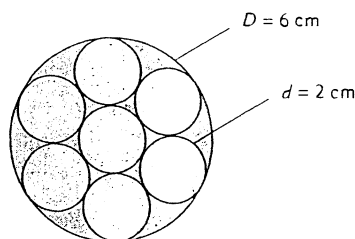

Fig. P6.94
6.94 As shown in Fig. P6.94, a multiduct cross section consists of seven 2-cm-diameter smooth thin tubes packed tightly in a hexagonal “bundle” within a single 6-cm-diameter tube. Air, at about 20°C and 1 atm, flows through this system at $150 \text{ m}^3/\text{h}$. Estimate the pressure drop per meter.